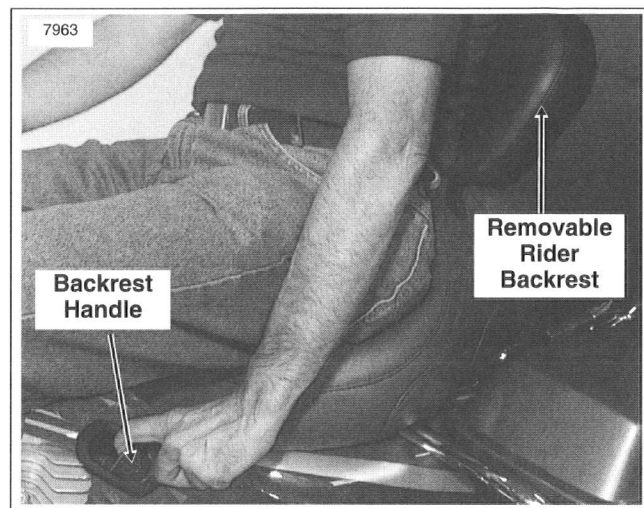

Figure 27. Backrest Adjustment
1. See Figure 27. While sitting on the motorcycle seat, use your left hand to pull outward the backrest handle and at the same time lean back into the backrest and position the backrest for your comfort.
1. See Figure 27. Pull outward the backrest handle to allow Rider Backrest to tilt toward the front of the motorcycle.